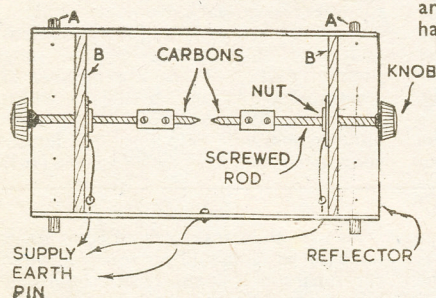

Fig. 1—Front view of lamp
A front view of the lamp is shown in Fig. 1. The source of supply is connected to the screwed rods, to which the carbon rods are fixed. Insulated knobs provide a means of adjusting the distance between the points where the arc is struck. The whole is supported in a curved metal reflector, this being earthed to the mains plug, as with
The two outside portions, indicated by (A) in Figs. 1 and 2, are now screwed in position round the back of the reflector, forming the stand upon which the completed lamp will rest.